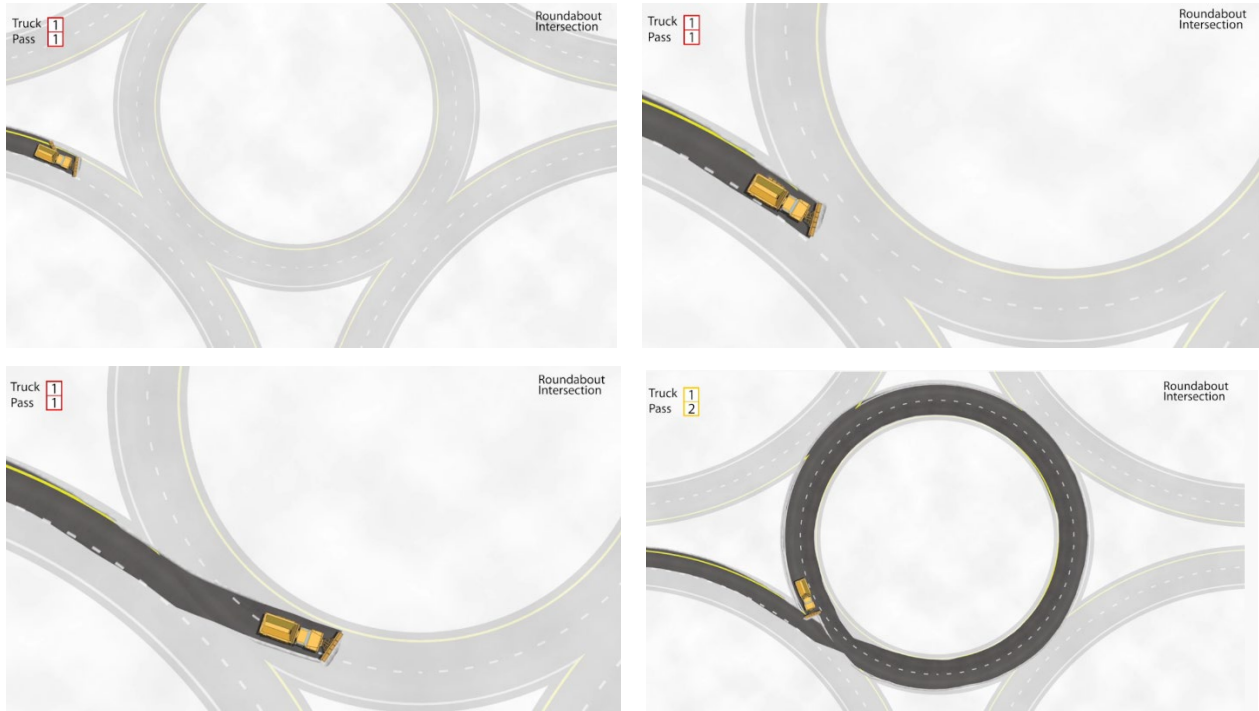

Figure 2.3: Snow plowing pattern in Passes 1/1 and 1/2
Step 2:  The truck continues completely around until arriving at the same point where it enters the intersection, then it moves over to the outer lane and begins Pass 1/2. Pass 1/2 continues completely around again but is now plowing the accumulated snow from both the inside and outside lanes away from the roundabout. Figure 2.3 illustrates the snow plowing pattern in Passes 1/1 and 1/2.